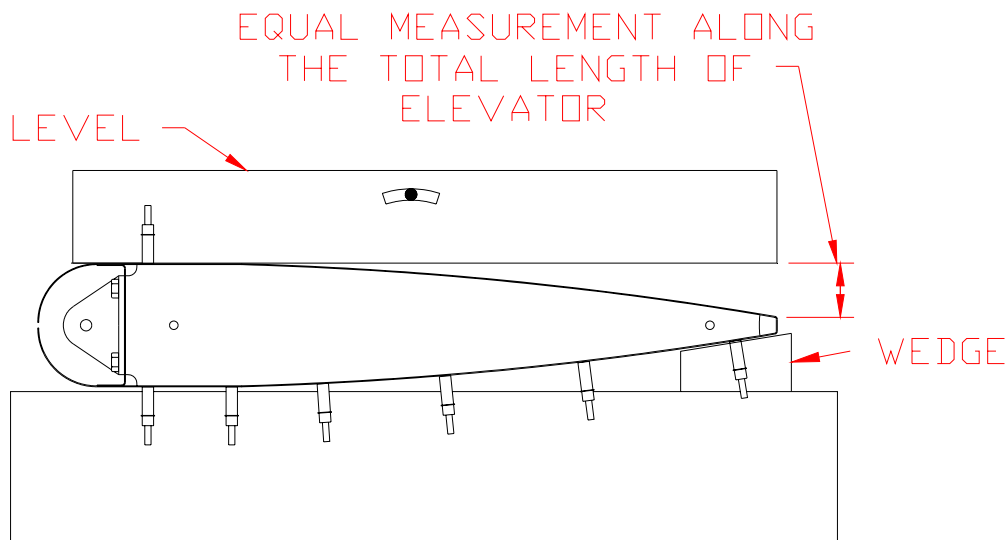

Figure 3.3.3
- 4) Level the assembly so that there is no twist. Figure 3.3.3. **NOTE:** This is an important step to have done correctly. Please be careful on leveling.